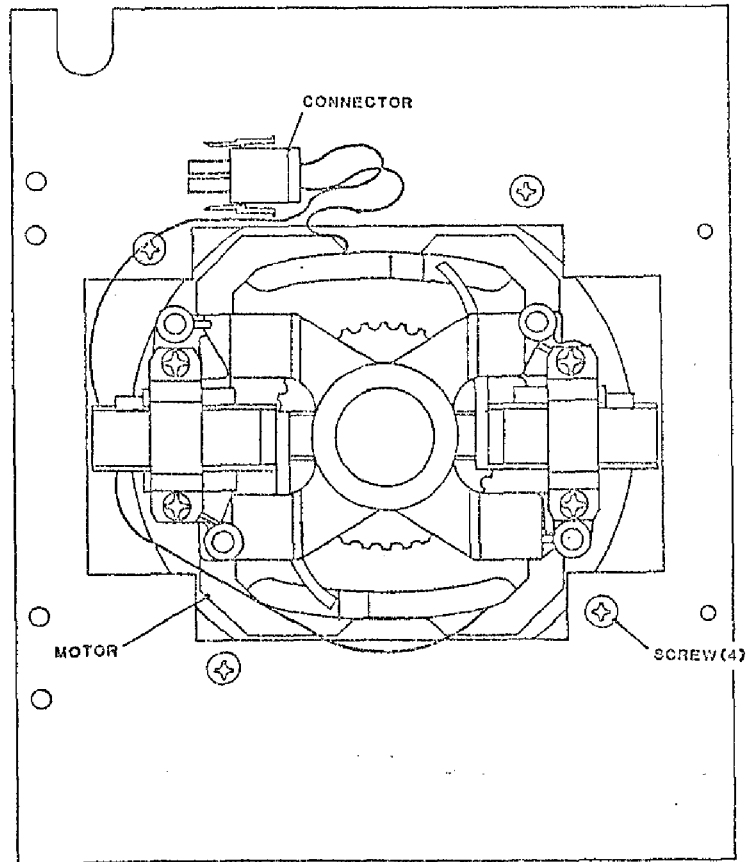

Figure 5-25. Vacuum Motor Assembly, Shaft End View (Cover Removed)
5.3.30 VACUUM MOTOR ASSEMBLY (Figure 5-25)